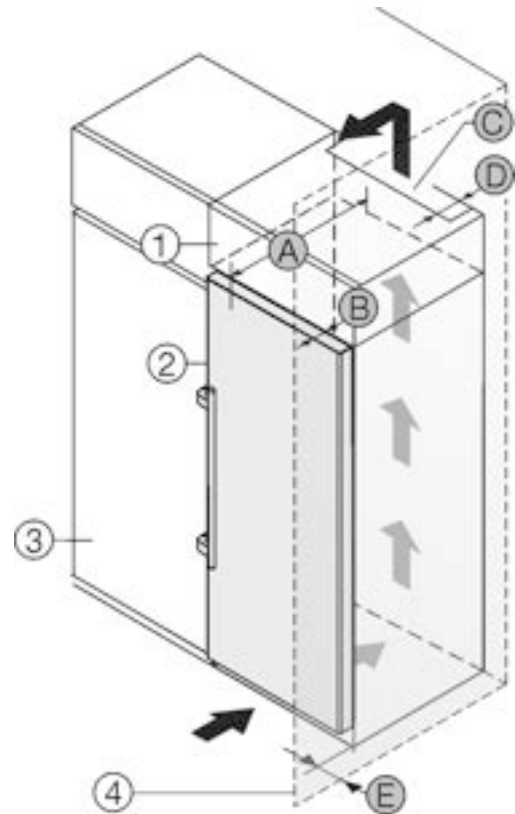

Fig. 30
The appliance can be built into kitchen units. A top cupboard Fig. 30 (2) can be added above the appliance in order to bring the appliance Fig. 30 (1) up to the height of the fitted kitchen units.
If the appliance is positioned directly next to a kitchen cabinet *Fig. 30 (3)*, a distance of at least 5 cm from the appliance is necessary. The appliance must protrude by the depth *Fig. 30 (B)* from the front of the cabinet so that the doors can be opened fully. The appliance may protrude further depending on the depth of the kitchen cabinets and whether wall spacers are used.
- At the back of the top cabinet, there must be an air outlet shaft with depth *Fig. 30 (D)*, spanning the entire width.
- The ventilation shaft *Fig. 30 (C)* must be observed under the ceiling.
If the appliance is installed with the hinges next to a wall *Fig. 30 (4)*, the distance *Fig. 30 (E)* between the appliance and the wall must be observed. This is how far the handle protrudes when the door is open.